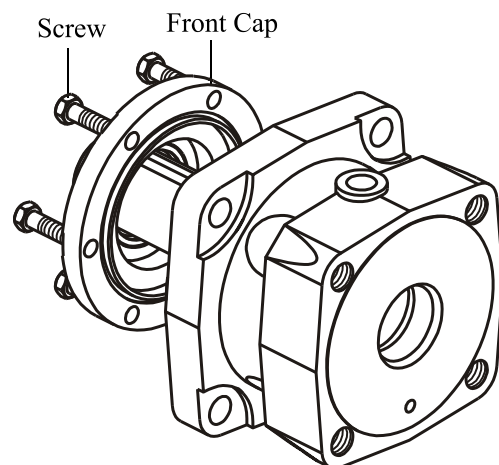

Fig.4
9. Unscrew bolts using a socket wrench. Remove front cover incl. seals. (see Fig.4)